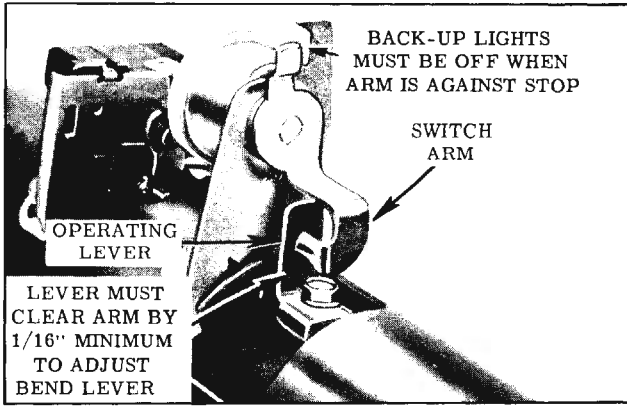

Fig. 13-123 Back-Up Lamp Switch (2nd)
3. Move shift lever to second gear. Operating lever should clear switch lever by a minimum of 1/16". (Fig. 13-123)